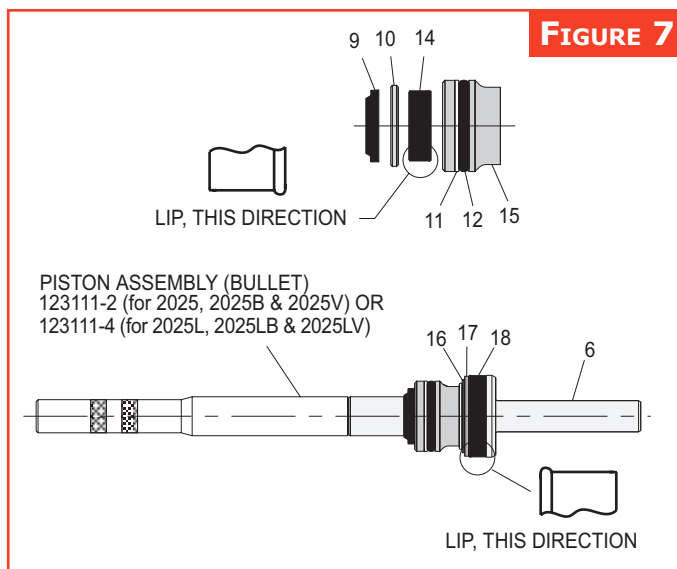
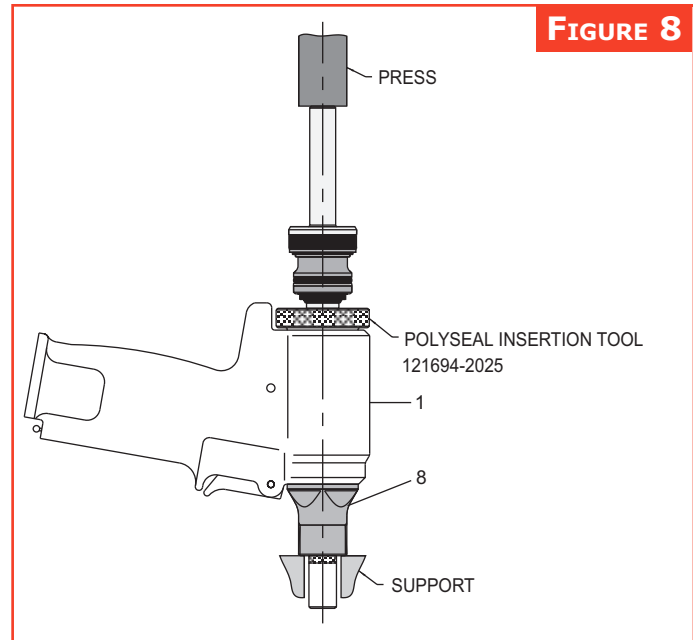

FIGURE 7
FIGURE 8
This procedure is for the assembly of the head/handle of models **2025**, **2025B**, **2025L**, and **2025LB**. For models **2025S** and **2025SL**, follow the procedures for models **2025** and **2025L**. For component identification, see Figures 7, 8, & 14.
2. Screw nose adapter (8) into head (1) and tighten.
4. Assemble the piston (6), Polyseal (18) and retaining ring (16). (Note the orientation of the Polyseal (18) in Figure 7.)
5. Assemble the front gland (15), O-ring (12), Back-up ring (11), Polyseal (14), and gland pap (10). (Note the orientation of the Polyseal (14) in Figure 7.)
6. Thread the Piston Assembly Tool (P/N **123111-2** [2025, 2025B, 2025V] / **123111-4** [2025L, 2025LB, 2025LV]) onto the piston (6). Slide the complete gland assembly and wiper seal (9) onto piston (6).
7. Use a press to gently install the assembled components through the rear of the tool. (Figure 8)
2. Assemble the gland assembly (25) with new seals. (Note the orientation of the Polyseal (18) in Figure 7.) Apply Anti-Seize Compound (P/N **508183**) to the threads of the gland assembly. Screw the gland assembly into the head/handle and torque it to 50 ft.-lbs. using a 1-3/8" socket wrench.
3. Push bumper (34) firmly over gland.
4. Install the Quad-ring (47) onto the air piston (37).
5. Lubricate the piston rod. Press the assembled air piston/rod into the cylinder just enough to allow installation of the cylinder head (45).
6. Assemble O-Ring (46) onto the cylinder head (45) and then push the cylinder head squarely into the cylinder, taking care not to damage O-ring (46). Install the retaining ring (38); align the screw holes with the muffler end cap.
7. Position the muffler (42) in center of cylinder head. Position the gasket (39) on cylinder. (Figure 2) Note the direction of the lip in Figure 7.